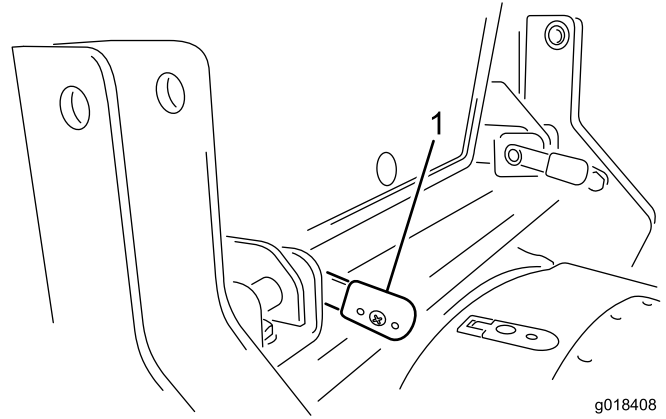

Figure 25
- Rotate the latch-pin handles horizontal (Figure 25), and secure the latch pins with the 2 hairpins.